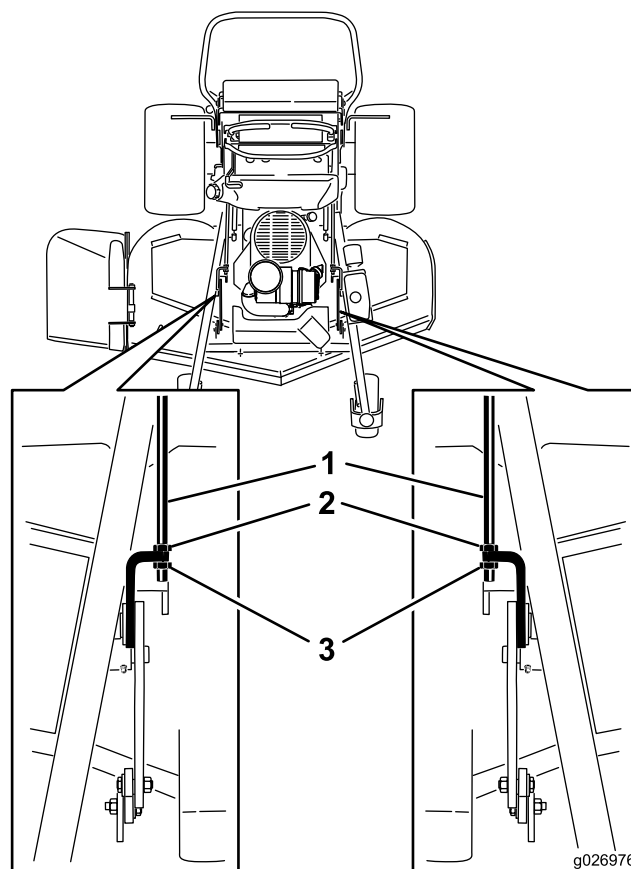

Figure 89
3. For 48 and 52-inch mower decks, loosen both the front and rear nuts on the adjustment rods (Figure 89).
Note: The weight of the mower deck must be resting on all 3 of the 2x4 pieces (Figure 89).
8. If the dimensions are not correct, adjust the front and rear nuts on either side to get the correct front-to-rear pitch (Figure 89).